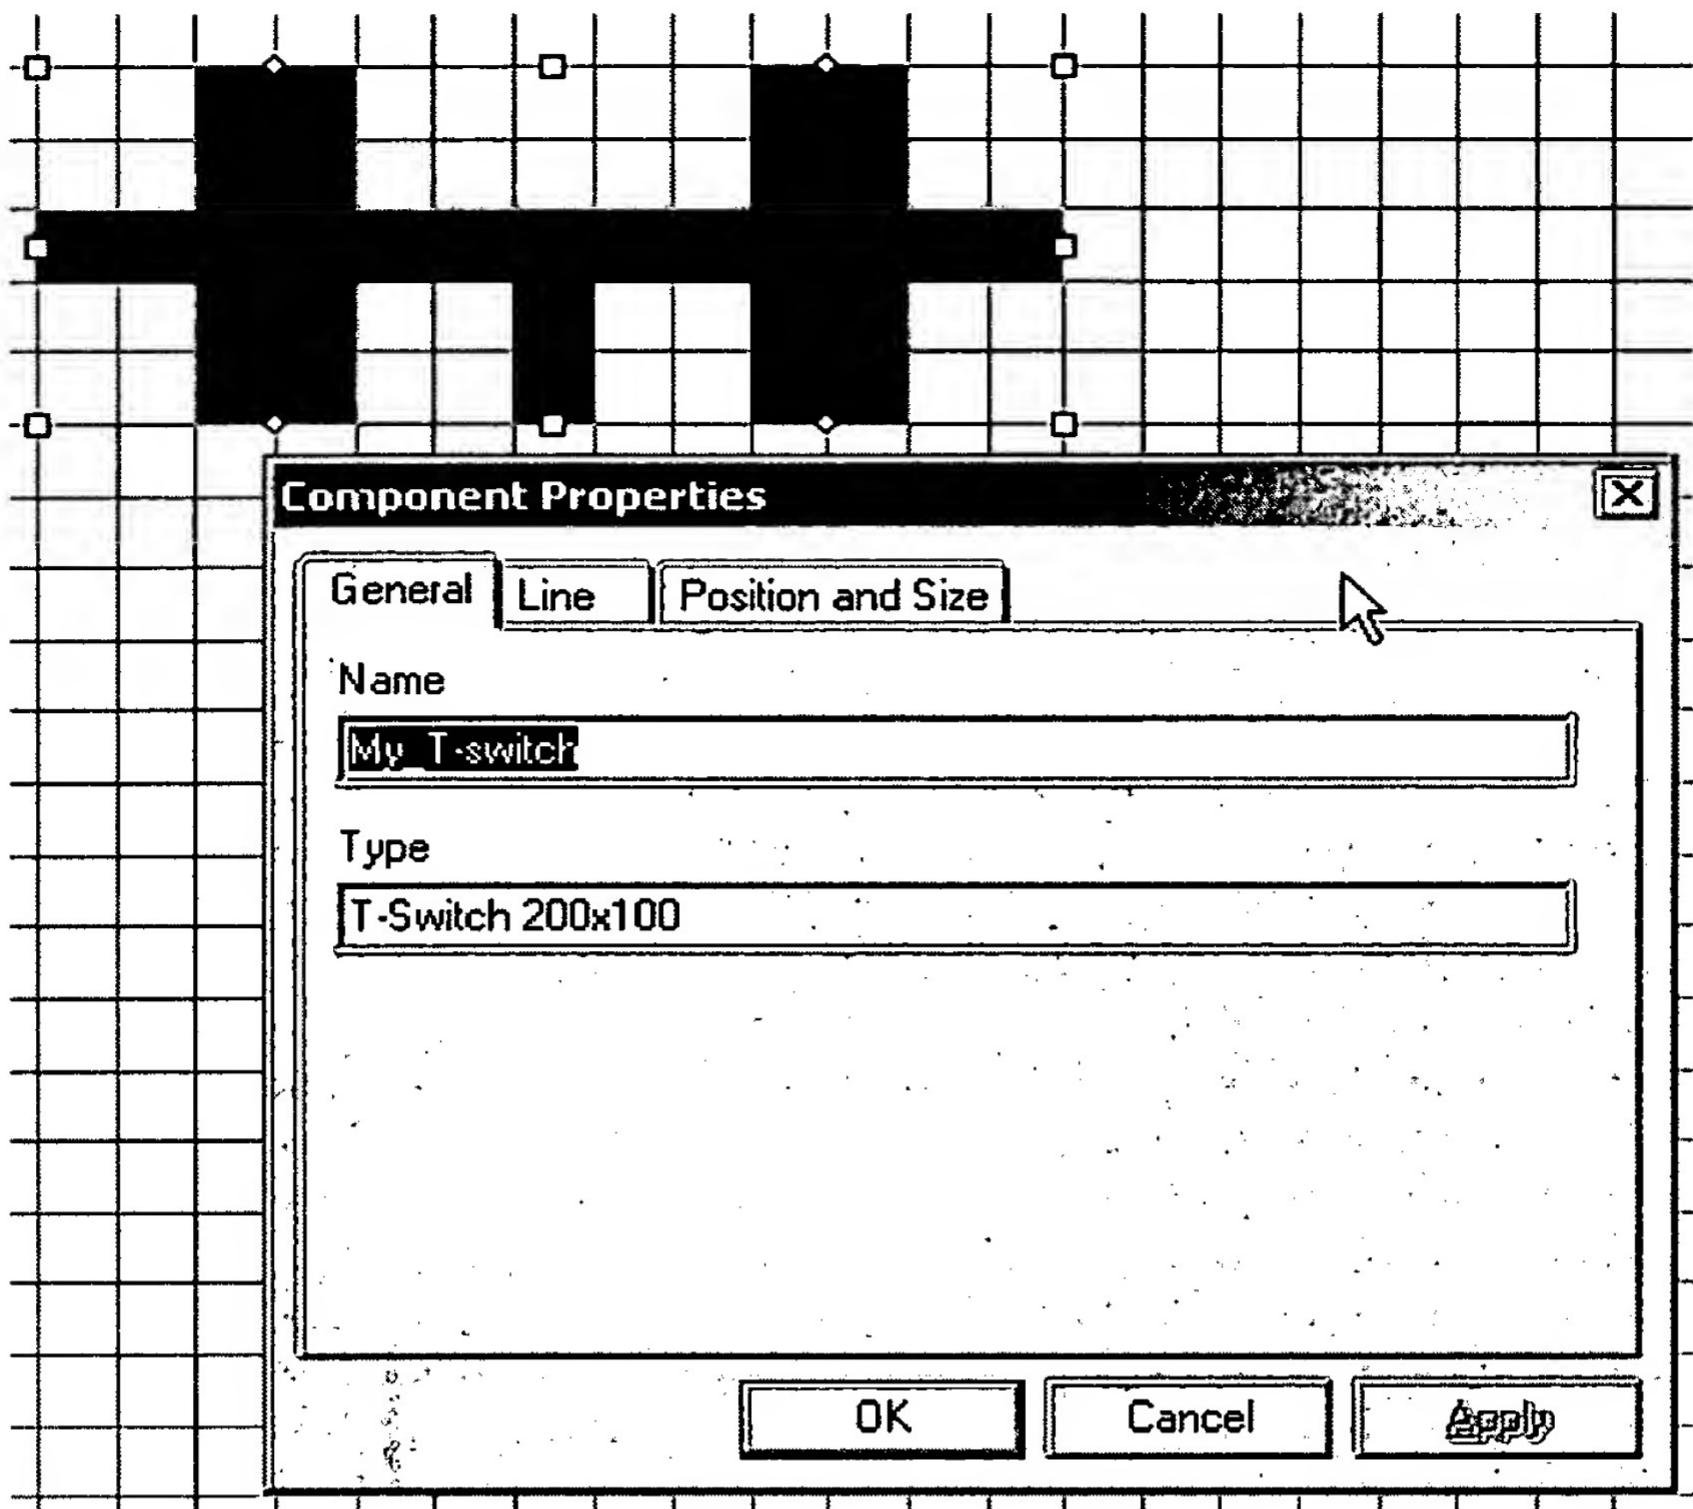

Figure 59 – Component Instance Property Dialog Box
- The Component Properties dialog box will appear. In this case, this component has been named "My_T-switch". Figure 59 shows that type of component as well as two other tabs that contains placement information regarding the component.